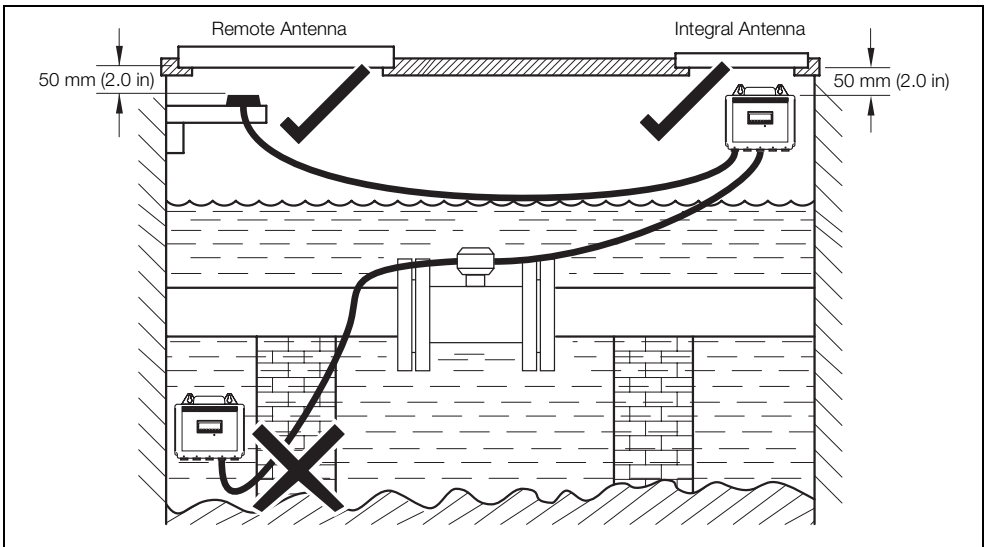

Fig. 2.22 GSM Antenna Installation
- the antenna is mounted 50 mm below the chamber cover, which must be plastic – see Fig. 2.22
- Ensure the antenna will not become submerged under water – see Fig. 2.22.